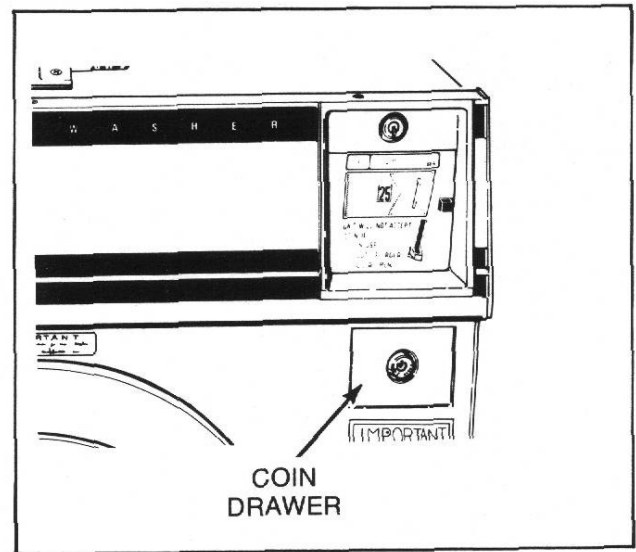

Figure 9
- e. Unlock and remove coin drawer, *Figure 9*.
- c. Metered Models: Unlock and remove coin drawer, *Figure 9*.
- d. Metered Models: Unlock and remove coin drawer, *Figure 9*.
- Metered Models: Unlock and remove coin drawer, *Figure 9*.